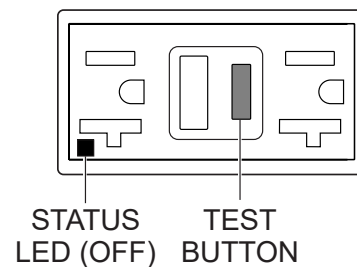

Figure 83. GFCI Receptacle (OFF)
4. Press the **TEST** button (Figure 83) on the GFCI receptacle and verify that the status LED turns **OFF**.